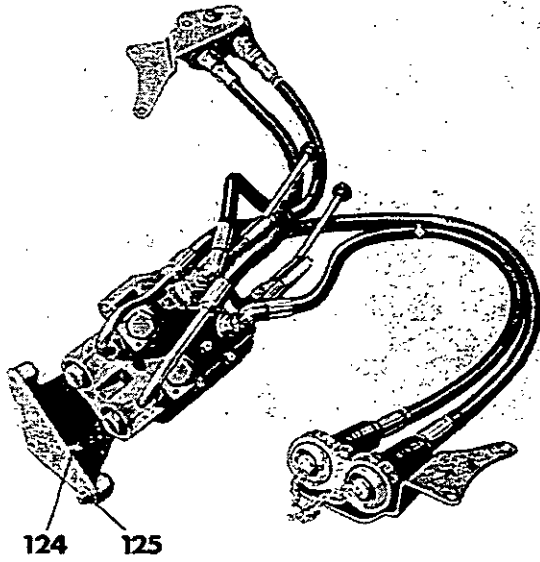

FIG. 28
26. Fig. 28. Fit the triangular plate (124) as shown, and secure it with a bolt (125) nut and spring washer through the R.H. hole in the base of the manifold.